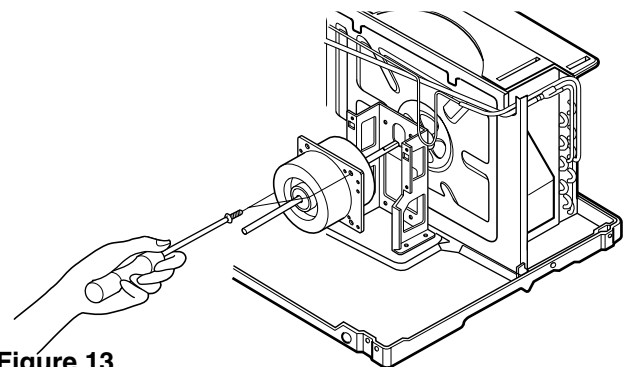

Figure 13
7. Remove the 2 screws which fasten the motor from the mount motor. (See Figure 13)
9. Re-install the components by referring to the removal procedure, above.(See Figure 13)